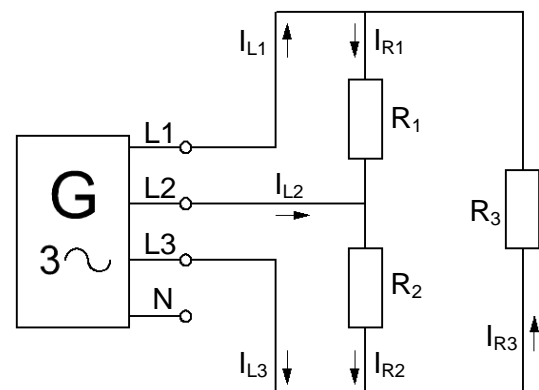

Fig. 12.4.2.1: Measurements on the delta circuit
- Load the three-phase generator on the Electronic Circuits Board with 3 resistors connected in a delta circuit, as in Fig. 12.4.2.1. First, use 3 resistors of the same value, each 1 k Ω (assembly details are given in section 12.4.3).